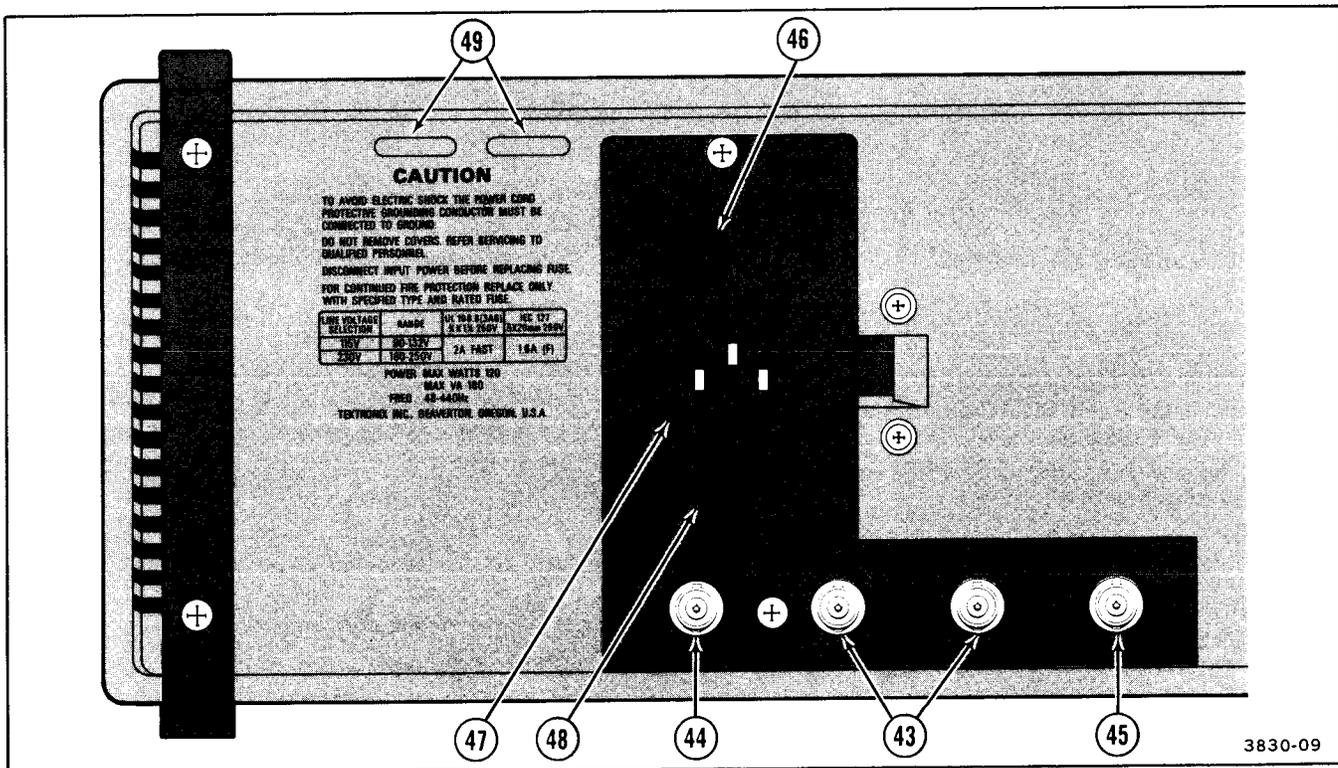

Figure 3-6. Rear-panel controls and connectors.
Refer to Figure 3-6 for location of items 43 through 49.